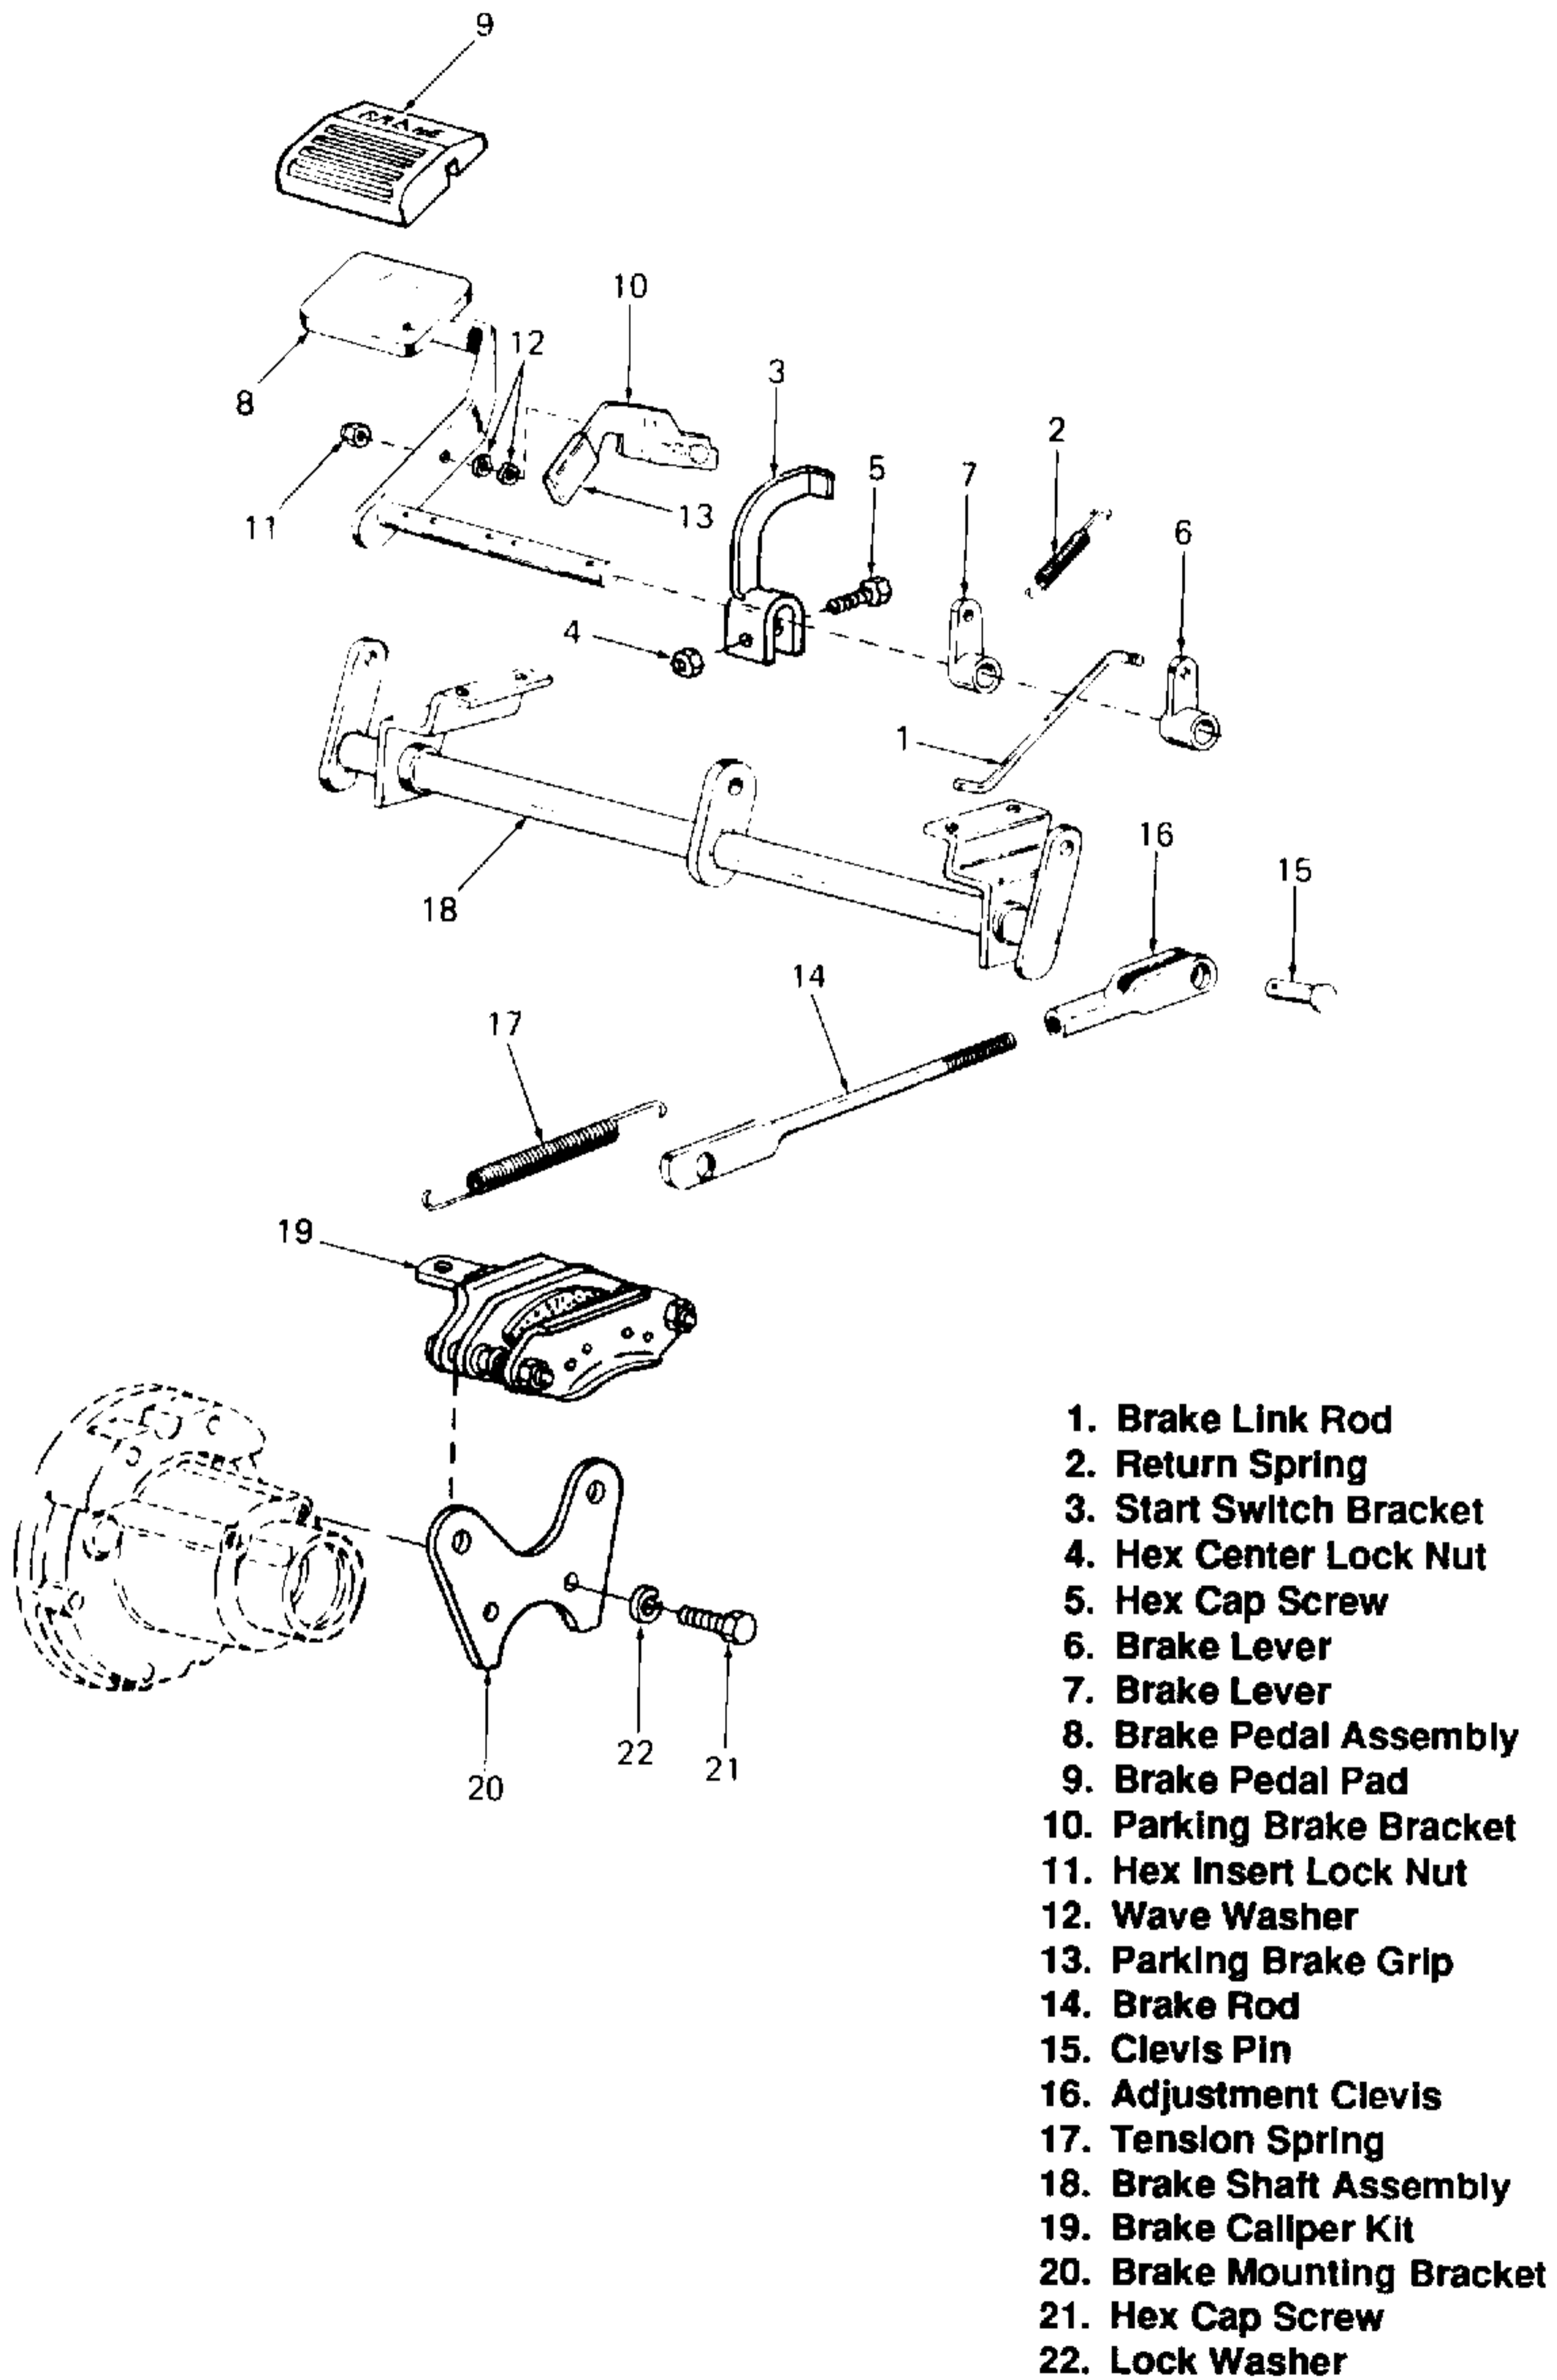

Figure 5-62. Brakes and Connections (Models 1340, 1541, 1860 and 1862).
2. Remove brake link rod (1, Figure 5-62) and return spring (2).
3. Remove start switch bracket (3) by removing hex center lock nut (4) and hex cap screw (5).
4. Remove brake levers (6 and 7) by removing spiral spring pins and pulling brake pedal assembly (8) from the tractor. Discard spiral spring pins.
5. Remove brake rod (14) by removing clevis pin (15), adjustment clevis (16) and tension spring (17).
6. Remove brake shaft assembly (18).
7. Remove brake caliper kit (19).
8. Remove brake mounting bracket (20) by removing hex cap screw (21) and lock washer (22), which can be removed through access hole in the axle hub.